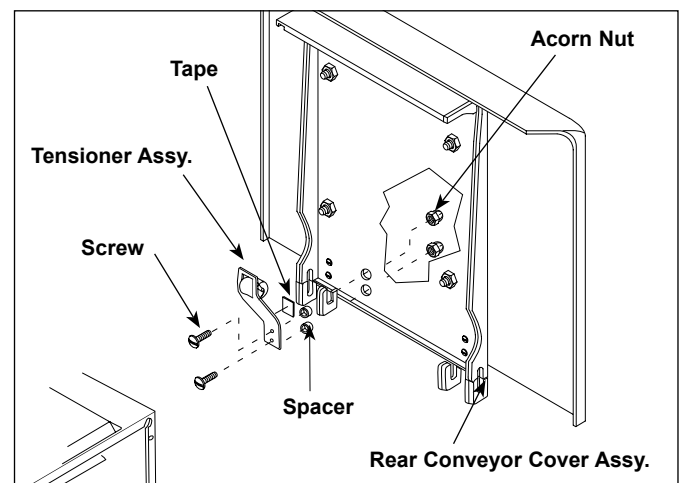

Figure 20. Replacing Roller Tensioner Assy.
1. Remove screws from acorn nuts (Figure 20) and remove old roller tensioner assy.